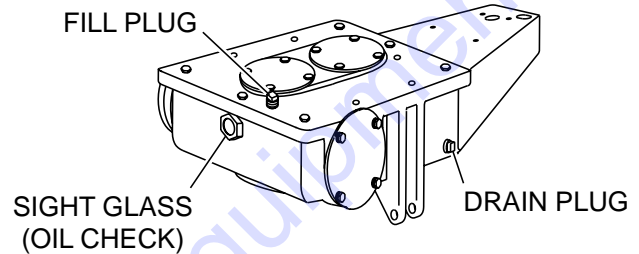

Figure 8. Gearbox Oil Plugs/Sight Glass
1. Check the gearbox oil level in both gearboxes by viewing the sight glass at the rear of the gearbox. See Figure 8.
2. The oil level of the gear box should be at the half-way point of the sight glass (Figure 8). The gear box oil capacity is 1 U.S. gallon, (3.79 liters). If additional oil is required, unscrew the oil fill plug located on top of the gearbox, and refill with ISO 220 A GMA GR 5 EP oil.